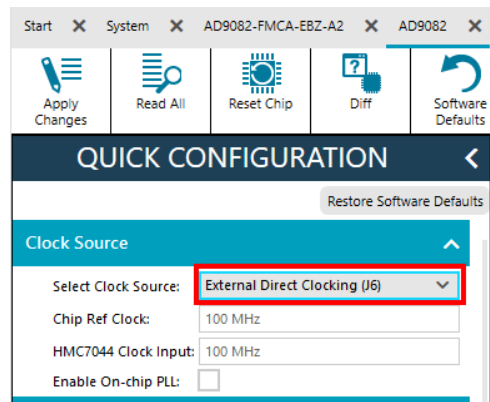

Figure 29. Selecting the Clock Source in Chip View
5. Open the chip view. In the **QUICK CONFIGURATION** pane, select the **External Direct Clocking (J6)** clock source, as shown in Figure 29.